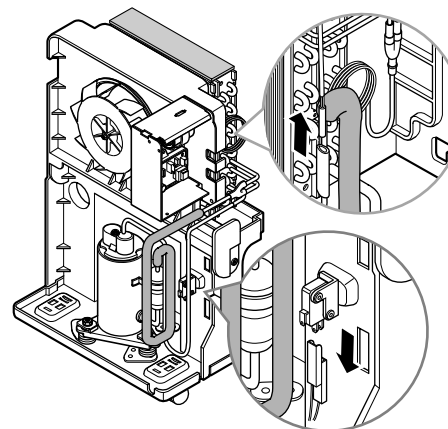

Figure 15
2. Remove the screw which fastens the humidity sensor. (See Figure 15)
3. Remove the thermistor from the holder. (See Figure 15)
4. Disconnect the switch wires from the micro switch assembly. (See Figure 15)